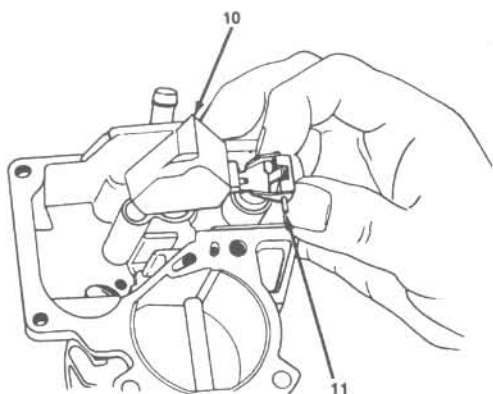

Fig. 4.71 Float (10) and float pin (11) removal details
- 7 Separate the float from the air horn by holding the air horn bottom side up and then remove the float and pin as shown in Fig. 4.71.